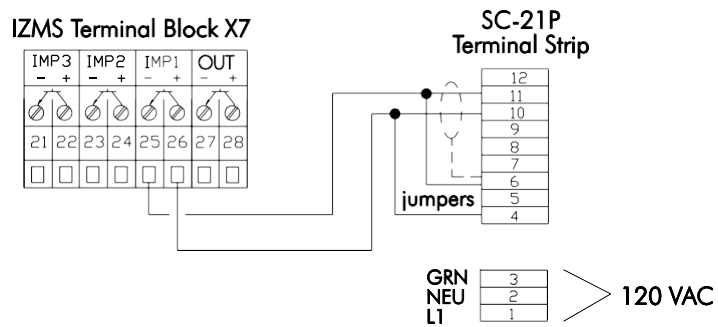

Figure 3-17. SC-21P Scaling Circuit Signal Wiring Configuration
- P SC-21P Scaling Circuit (Figure 3-17)